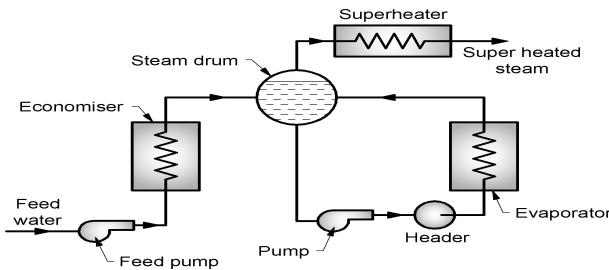

Fig. 1.2 Forced circulation boiler
- (b) **Forced circulation boiler:** In this boiler, pump is used to circulate the water as shown in Fig. 1.2. High pressure and high capacity boiler use forced circulation e.g. Lamont, Benson, Velox boiler etc.